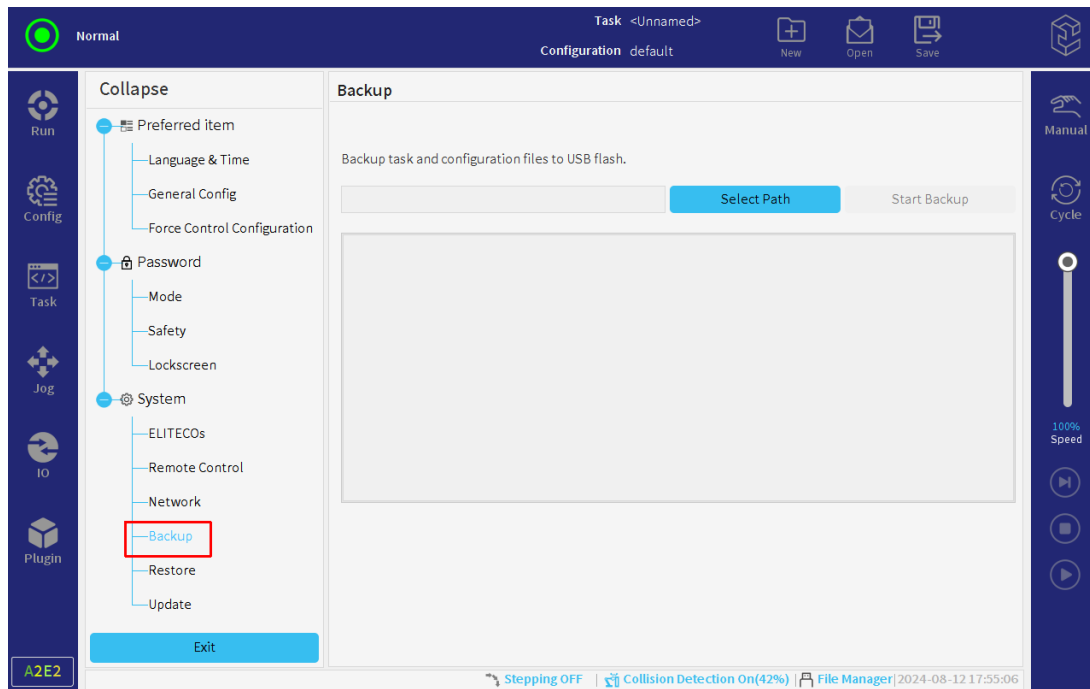

Figure 3-23 : Backup
2. Select "Settings > System > Backup", as shown in **Figure 3-23**.